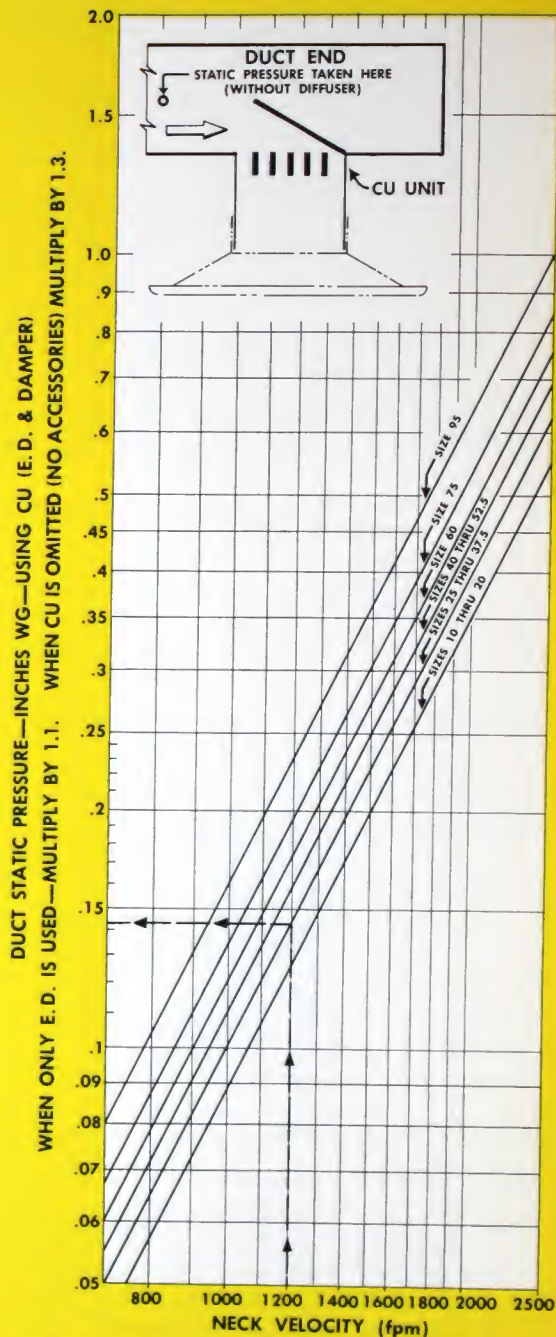

Fig. 1—End of duct run—where duct area is approximately equal to take-off area.
1. Determine from an analysis of the actual duct design which figures 1, 2 or 3 apply.
Assuming our example comes under figure 1, proceed as follows:
- (a) Total required s.p. = Diffuser s.p. (Performance Data Type AR-3) + Duct s.p. (From Graph in Fig. 1).
- (c) On chart (Fig. 1 — Duct End Condition) enter graph at 1200 fpm Neck Velocity and follow line up until it intersects curve for size 25 through 37.5. Proceed horizontally at this intersection and read .143 in wg. Duct s.p.